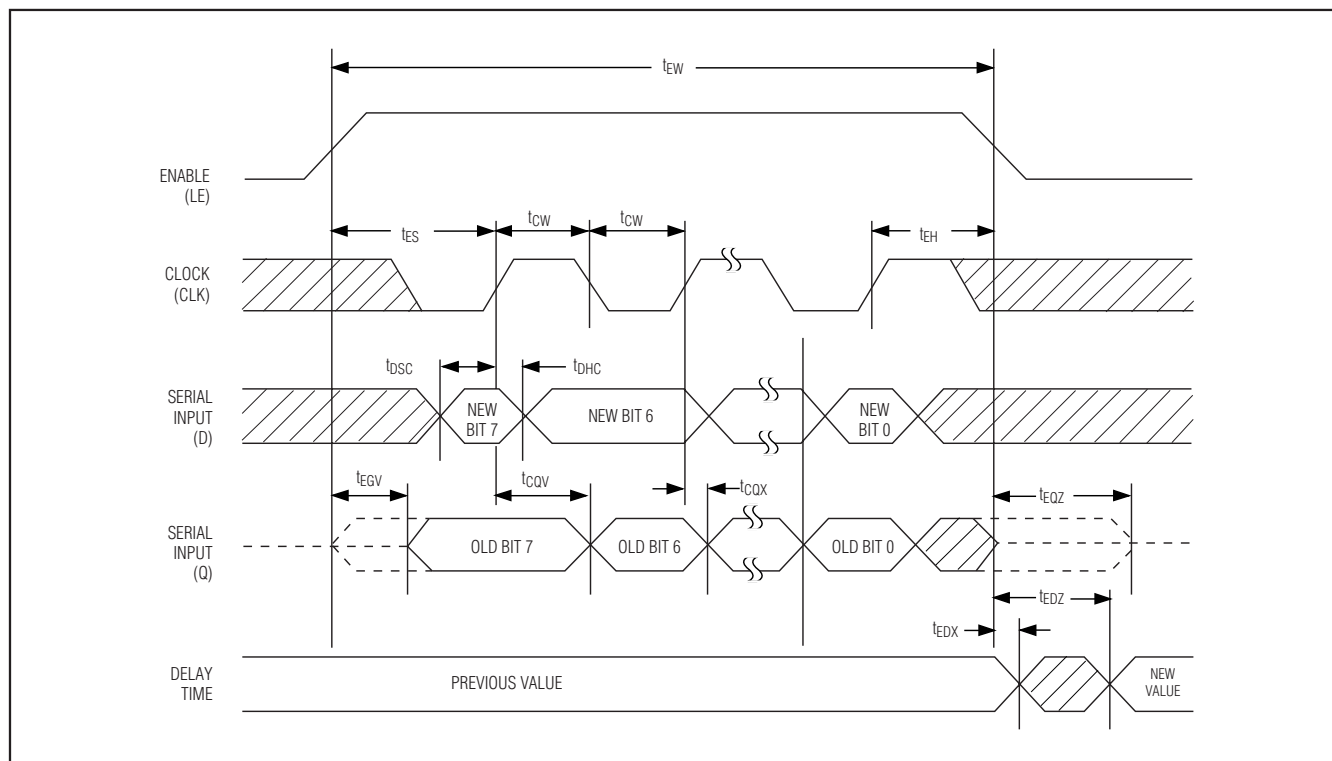

Figure 6. Serial Interface Timing Diagram
The 3-wire serial interface is enabled by connecting $\bar{P}/S$ to V_{CC} . Serial mode operates similar to a shift register. When LE is set at a high logic level, it enables the register and CLK clocks the data, D, into the register one bit at a time starting with the most significant bit. After all 8 bits are shifted into the DS1123L, LE is pulled low to end the data transfer and activate the new value. A settling time (t_{EDV}) is required before the signal delay meets its specified accuracy. A timing diagram for the serial interface is shown in Figure 6. The 3-wire interface also has an output (Q) that can be used to cascade multiple 3-wire devices, and it can be used to read the current value of the devices on the bus.